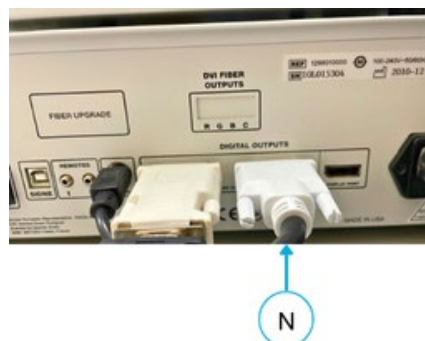

Figure 10-5: Cystoscopy Connections
- Cystoscopy system: Connect to the appropriate Digital Output DVI port (**N**) (**Figure 10-5**).